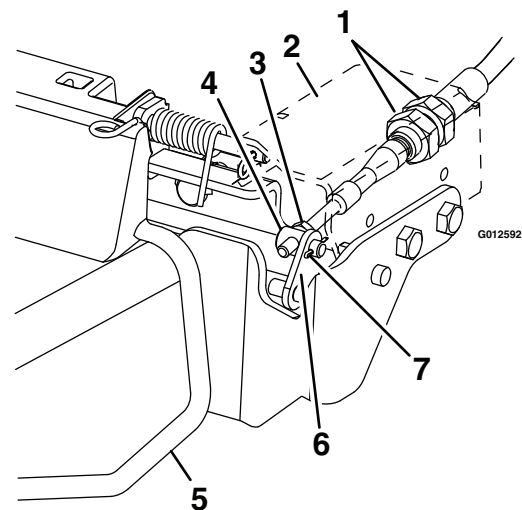

Figure 23
4. Adjust the cable nuts located behind and under the linkage cover (see Figure 23). Turn nuts until desired gate position is achieved.
5. If more adjustment is necessary, remove the cotter pin shown in Figure 23.